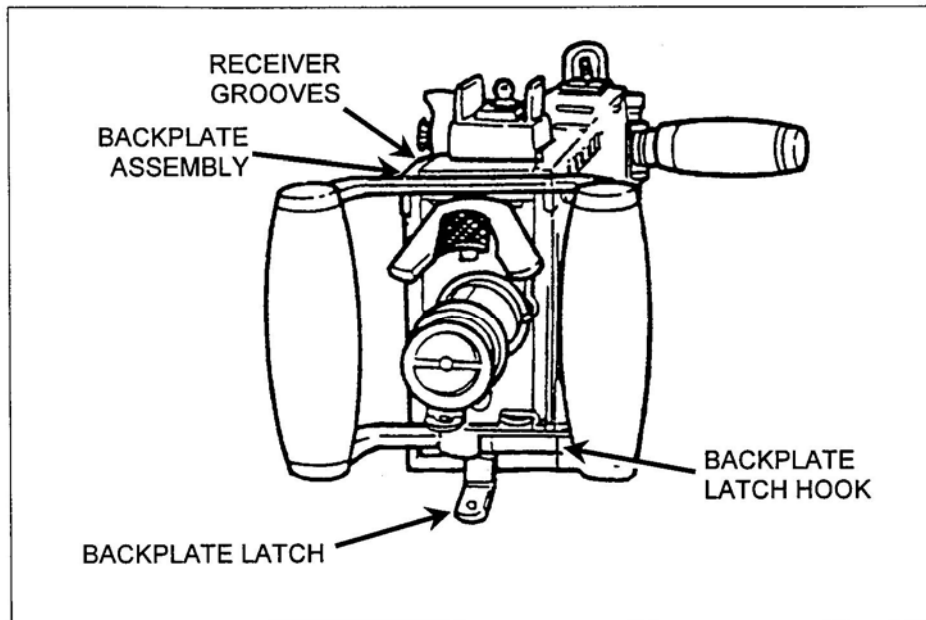

Figure 42. Installation of the backplate assembly.
- g. Install backplate assembly (Figure 42).